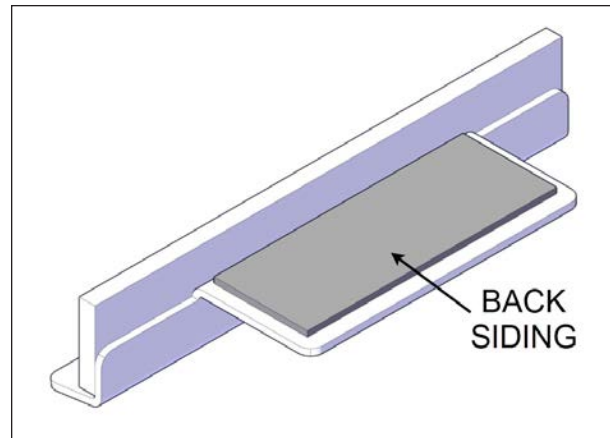

FIGURE 98: WIPER
2. Peel back the red siding of the double-sided tape of one wiper see Figure 98.